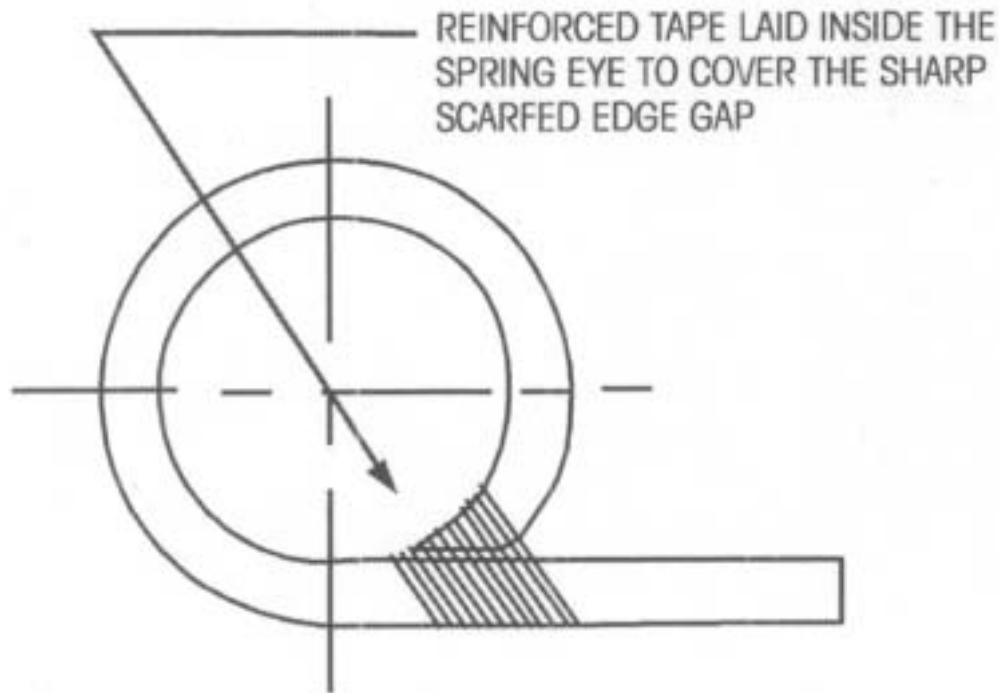

Figure 7.7
*In production, a spring eye clip was used to insert the pivot bushing into the spring eye of the main support member. See Figure 7.16. If spring eye clip is equipped on the main support member, you have the option to carefully press out the bushing from the opposite side of the spring eye (where the spring eye clip is NOT visible). If the spring eye clip is not damaged, it can be used again to facilitate the pressing in of the pivot bushing into the spring eye. If damaged, use the tape option as shown in **Figure 7.7**.*
Additional tape may be required depending on gap size. Ensure that the gap is completely covered. See **Figure 7.7**.